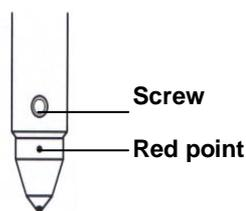

Figure 6-17 *Installing an indenter*
1. Carefully insert the indenter shank into the installing hole and the red point should face towards you. Refer to Figure 6-17.